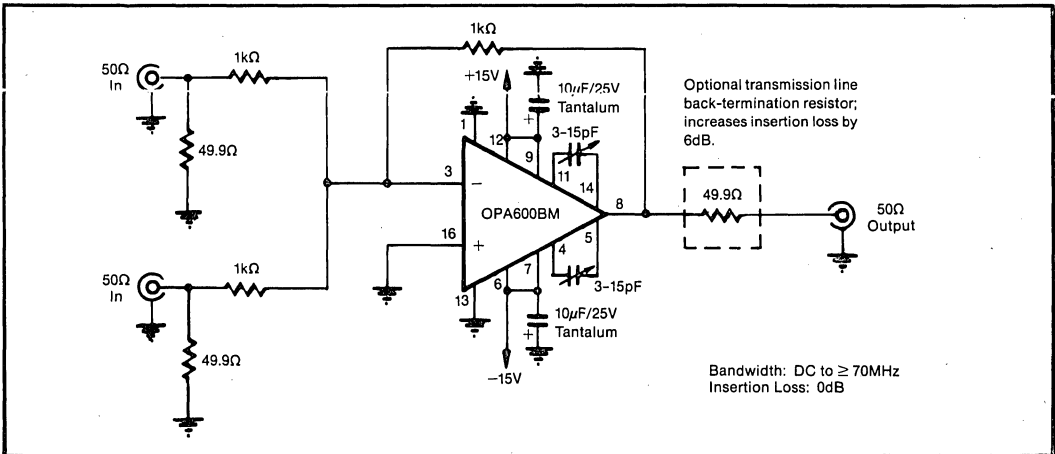

FIGURE 8. Active Signal Combiner.
7. Two-tone testing will require isolation between test signal generators to prevent IMD generation in the test generator output circuits. An active summing amplifier using an OPA600 is shown in Figure 8. This circuit will provide excellent performance from DC to